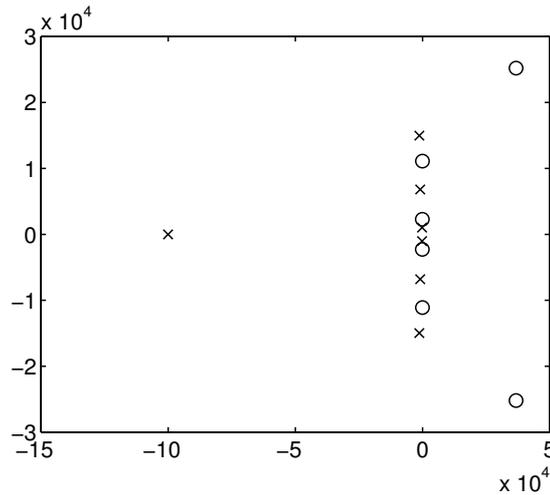
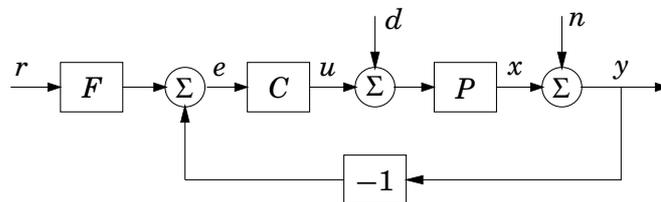

Figure 6.2 Pole-zero configuration of a resonant mechanical system.
Figure 6.3 Two degree of freedom controller structure.
- 6.2** A resonant mechanical system has the pole-zero configuration shown in Figure 6.2. The controller structure is given by Figure 6.3.
6.3 Consider the setup in Figure 6.3 with $P(s) = (3 - s)/(s + 1)^2$
6.7 Consider the setup in Figure 6.3 with